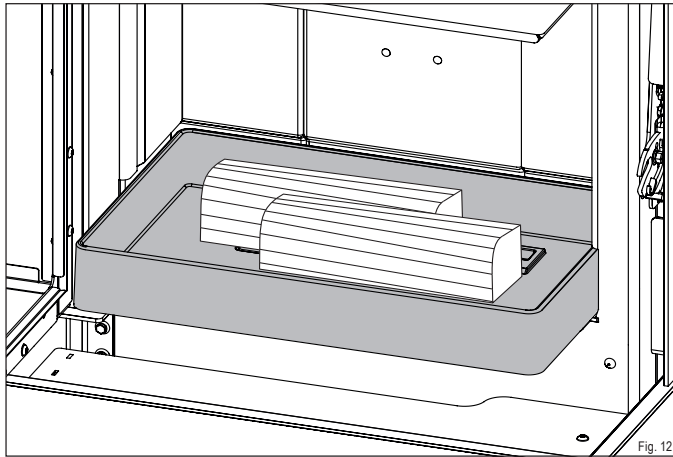

Fig. 12
- ▶ **Place the logs (total weight: 1.7 kg) slightly offset in the middle of the grate in the firebox (Fig. 12):**